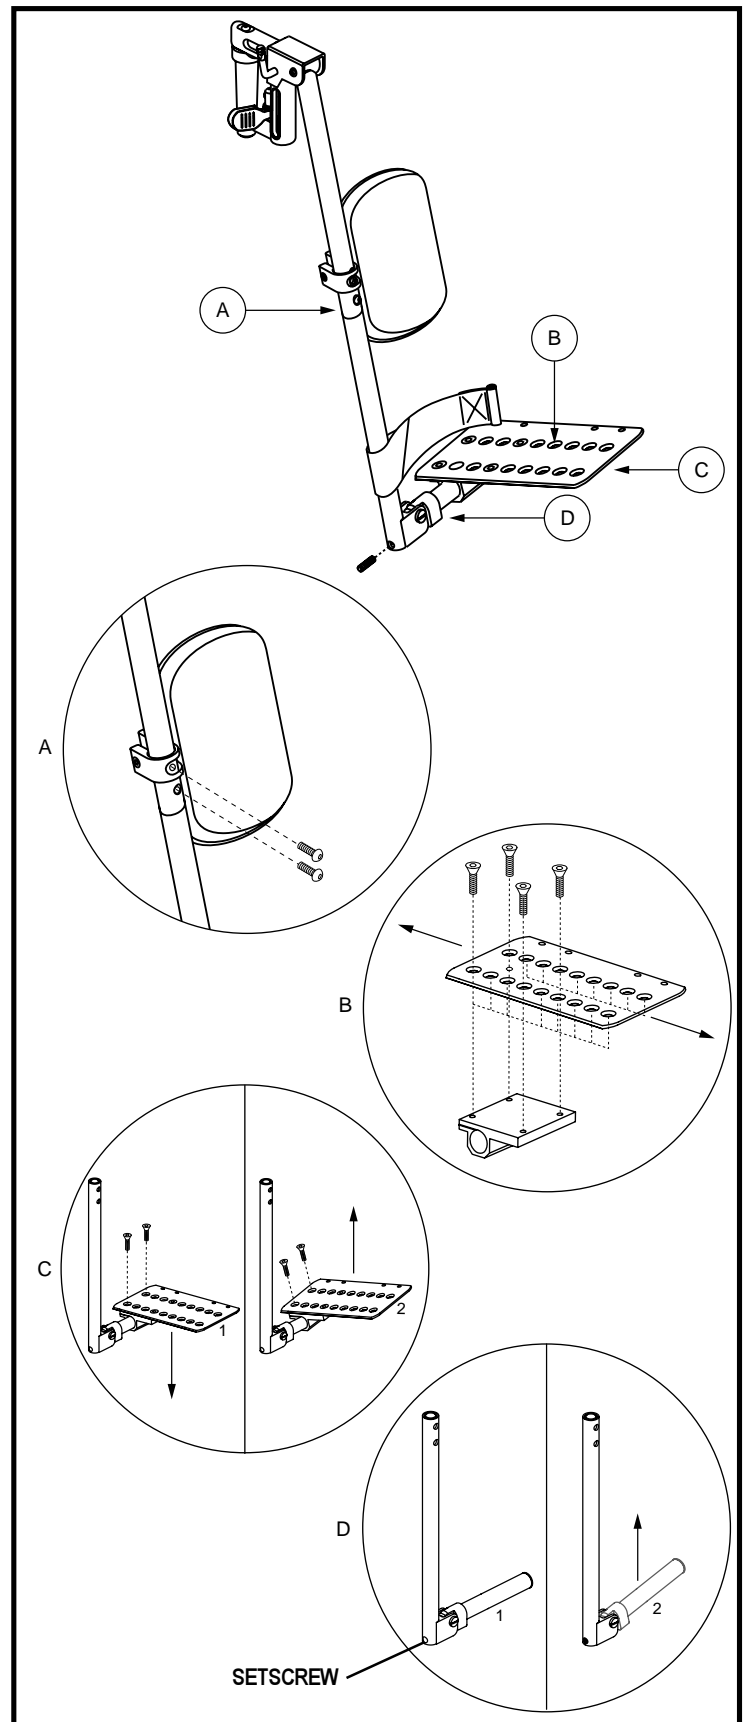

Figure 23. Multi-axis Foot Plate
The multi-axis foot plate assembly can be installed on either a swing-away leg rest or an elevating leg rest. The multi-axis foot plate has four adjustments: leg rest length (A), position (B), tilt (C), and angle (D). See figure 23.